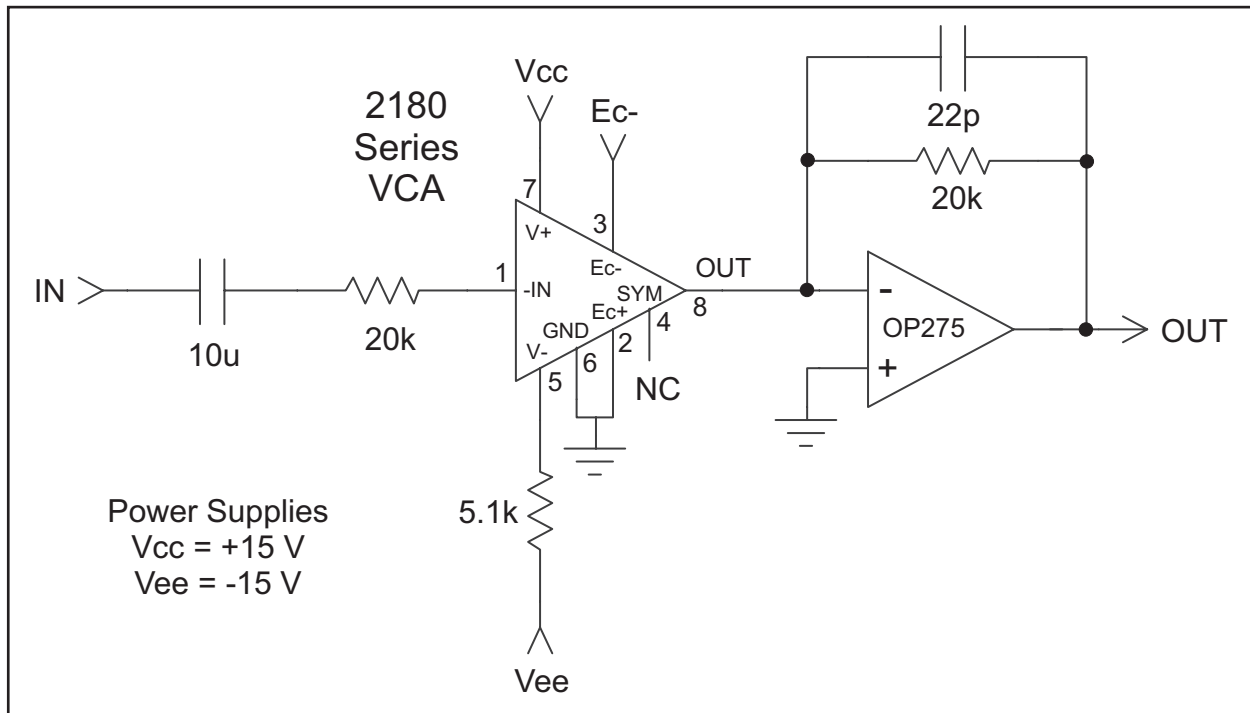
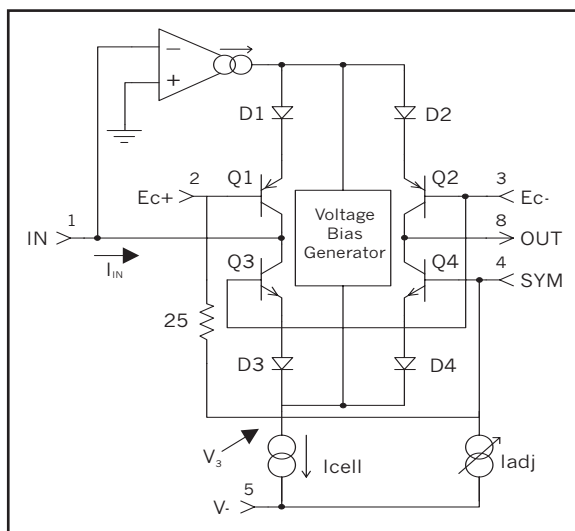
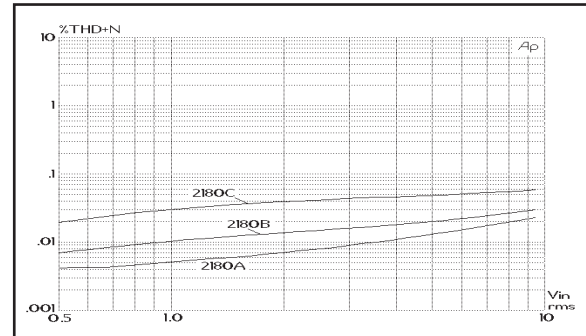
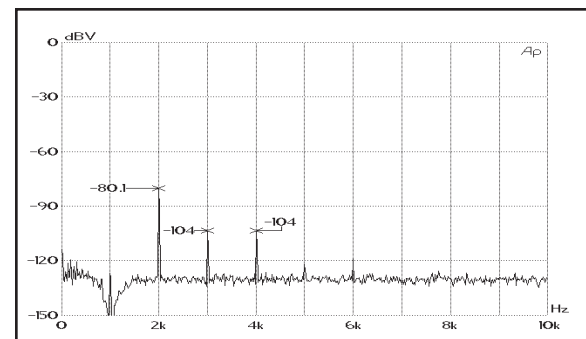

Figure 2. Typical Application Circuit
Figure 5. Simplified Internal Circuit Diagram
Figure 10. 1 kHz THD+Noise Vs. Input Level, 0 dB Gain
Figure 13. FFT of THD, 0dB gain, 1kHz, 0dBV, Typical 2180B
2. Unless otherwise noted, T_A = 25°C, V_{CC} = +15V, V_{EE} = -15V. Test circuit is as shown in Figure 2.
Figure 5 presents a considerably simplified internal circuit diagram of the IC. The ac input signal current flows in pin1, the input pin. An internal operational transconductance amplifier (OTA) works to maintain pin 1 at a virtual ground potential by driving the emitters of Q1 and (through the Voltage Bias Generator) Q3. Q3/D3 and Q1/D1 act to log the input current, producing a voltage, V_3 , which represents the bipolar logarithm of the input current. (The voltage at the junction of D1 and D2 is the same as V_3 , but shifted by four forward V_{be} drops.)
The 2180 current consumption is determined by the resistor between pin 5 (V^-) and the negative supply voltage (V_{EE}). Typically, with 15V supplies, the resistor is 5.1 k Ω , which provides approximately 2.4 mA. This current is split into two paths: 570 μA is used for biasing the IC, and the remainder becomes I_{cell} as shown in Figure 5. I_{cell} is further split in two parts: about 20 μA biases the core transistors (Q1 through Q4), the rest is available for input and output signal current
recommended. In particular, the 2180 maintains low distortion over a wide range of gain, cut and signal levels. Figures 10 through 12 show typical distortion performance for representative samples of each grade of the part. Figure 13 shows the harmonic content of the distortion in a typical B-grade part.
The Input pin (pin 1) is a virtual ground with negative feedback provided internally (see Figure 5, Page 4). The input resistor (shown as 20 k Ω in Figure 2, Page 3) should be scaled to convert the available ac input voltage to a current within the linear range of the device. Generally, peak input currents should be kept under 1 mA for best distortion performance.
Figures 10 through 12 show distortion vs. Signal level for the three parts in the 2180 Series for 0 dB, +15 dB and -15 dB gain. The circuit of Figure 2, Page 3 was used to generate these curves.
A designer may trade off noise for distortion by decreasing the 20 k Ω current-to-voltage converting resistors used at the input and output in Figure 2, Page 3. For every dB these resistor values are decreased, the voltage noise at the output of the OP275 is reduced by one dB. For example, with 10 k Ω resistors, the output noise floor drops to -104 dBV (typical) at 0 dB gain — a 6 dB reduction in noise because 10 k Ω is 1/2 of (6 dB lower than) 20 k Ω .
The Output pin (pin 8) is intended to be connected to a virtual ground node, so that current flowing in it may be converted to a voltage (see Figures 2 & 14). Choose the external opamp for good audio performance. The feedback resistor should be chosen based on the desired current-to-voltage conversion constant. Since the input resistor determines the voltage-to-current conversion at the input, the familiar ratio of R_f/R_i for an inverting opamp will determine the overall voltage gain when the 2180 is set for 0 dB current gain. Since the VCA performs best at settings near unity gain, use the input and feedback resistors to provide design-center gain or loss, if necessary.